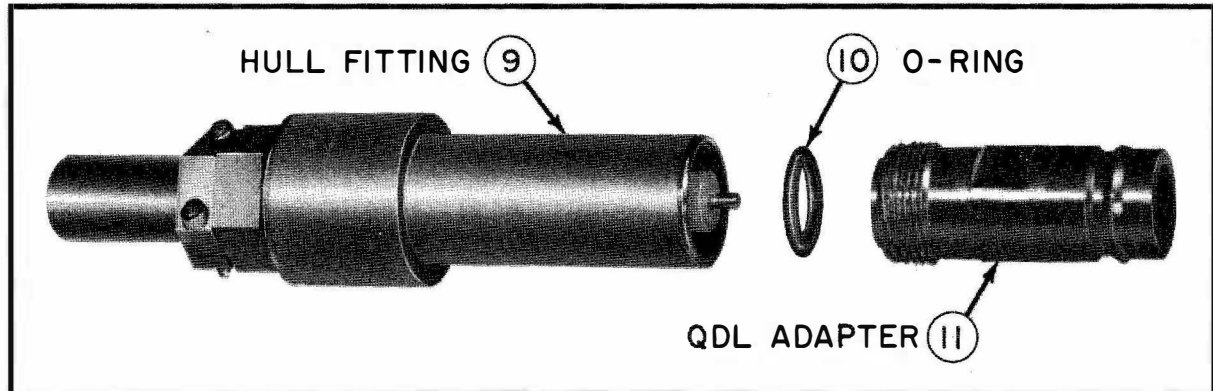

Figure 5-9g. Installing O-Ring and Adapter
Step 9. - Lubricate O-ring, piece 10, with insulating compound and slip into the hull fitting around the cable dielectric. Screw the QDL adapter, piece 11, tightly into the hull fitting as illustrated in figure 5-9g.